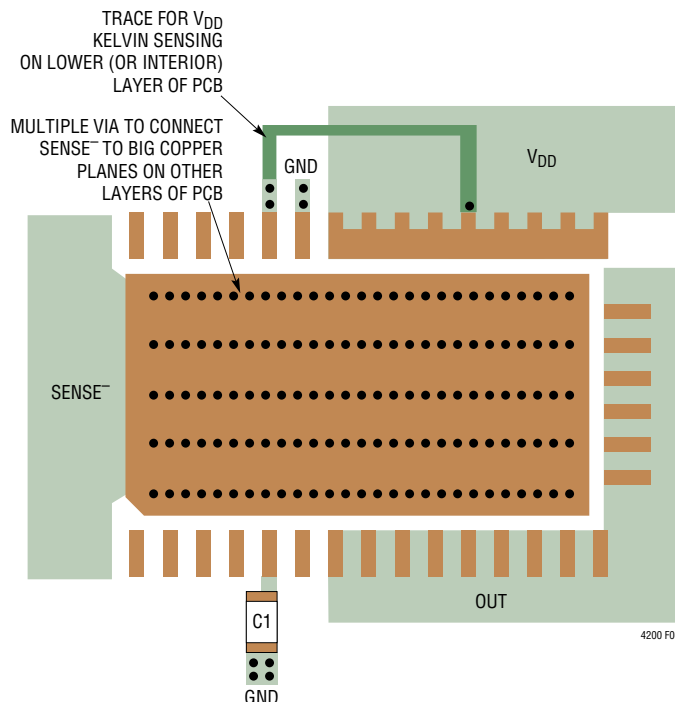

Figure 6. Recommended Layout
The SENSE+ pin can be connected to the middle of the wide VDD trace near pin 26 to provide Kelvin sensing for VDD (see Figure 6). Make sure to minimize the solder joint resistance at these VDD pins by applying solder along the whole length of the VDD bar that connects pin 22 to 30. High solder joint resistance will add error to the IMON gain and ILIM(TH) accuracy.
If the LT4200 operates near its maximum load current of 50A, the junction temperature can rise to a level near the thermal shutdown temperature if insufficient heat sinking is used. Always maximize the PCB copper area and thickness connected to the SENSE-, OUT and VDD pins. The VDD and OUT pins require a wide copper trace to carry the 50A current which will also help to conduct the heat away from the LT4200. The SENSE- exposed pad, although not carrying any current, should be as big as possible to help in the heat dissipation of the internal MOSFET. As shown in Figure 6, the SENSE- exposed pad can be connected through via to the other layers of the PCB with large copper planes. The size and thickness of these copper planes will affect the junction temperature of the LT4200. For example, the temperature rise is 38°C at 50A with an 8-layer PCB (2oz copper for top/bottom PCB layers with the rest 1oz thick) and with a large copper area of 17 inch square connected to SENSE- on the middle layers. If we reduce the copper area on the middle layers to 1-inch square, the temperature rise increases by another 20°C at 50A.